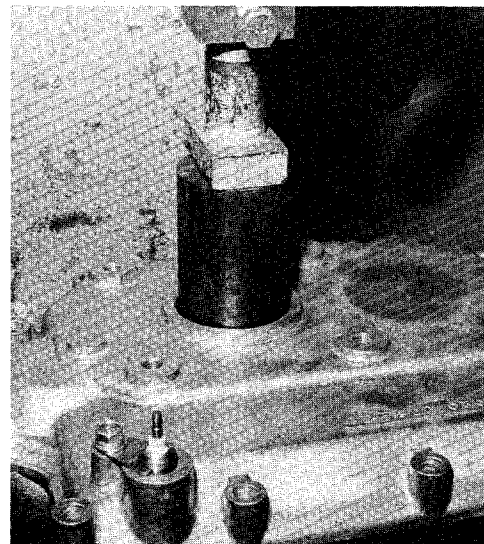

Figure 6-37
- Install new oil seals (77) with proper seal tool (**Figure 6-37**).